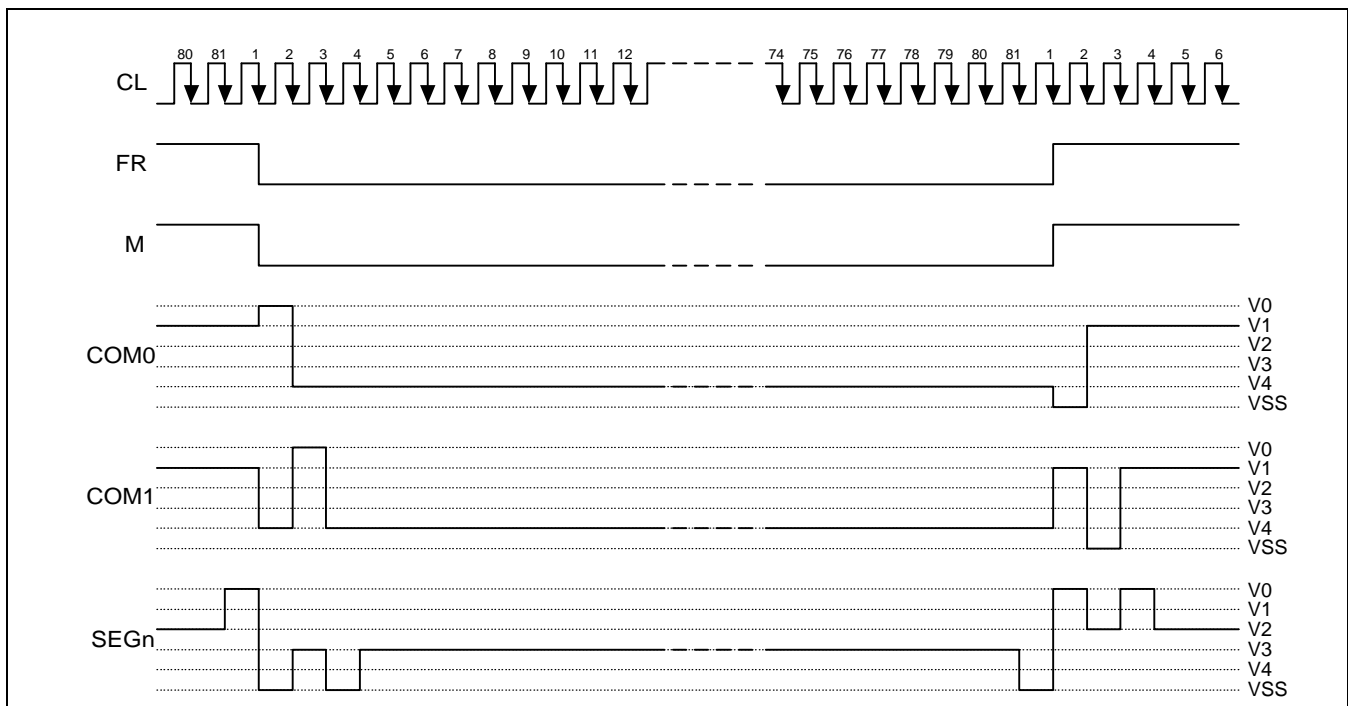

Figure 10. 2-frame AC Driving Waveform (Duty Ratio = 1/81)
This circuit generates some signals to be used for displaying LCD. The display clock, CL, generated by oscillation clock, generates the clock for the line counter and the signal for the display data latch. The line address of on-chip RAM is generated in synchronization with the display clock (CL) and the display data latch circuit latches the 104-bit display data in synchronization with the display clock. The display data, which is read to the LCD driver, is completely independent of the access to the display data RAM from the microprocessor. The display clock generates an LCD AC signal (M) which enables the LCD driver to make a AC drive waveform, and also generates an internal common timing signal and start signal to the common driver. The frame signal or the line signal changes the M by setting internal instruction. Driving waveform and internal timing signal are shown in figure 10.